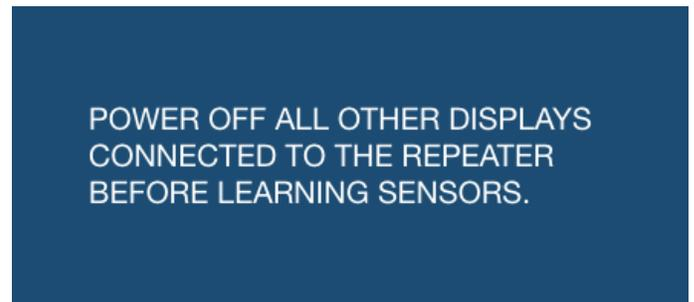

Fig.10
11. A notification will appear on the display for 5 seconds (Fig.10) instructing you to turn off all other displays connected to your repeater before automatically transitioning to the notifications received before sensor learning takes place.